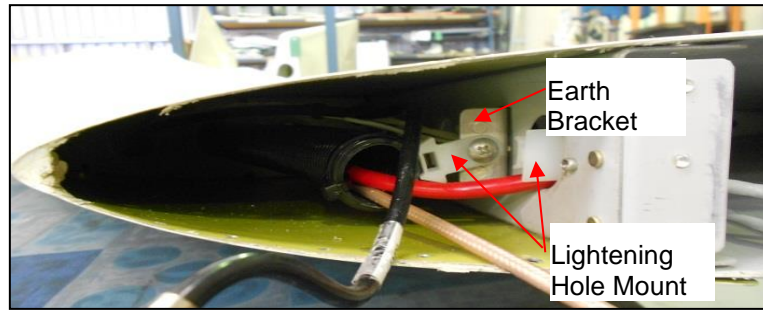

Figure 7 : Fin Tip
38. An additional Lightning Hole Mount is to be secured to the existing Earth Bracket (GA8-553021-107) as shown in Figure 7.
40. An additional Lightning Hole Mount (Item 27) is to be installed to the upper Fin Rear Spar Assembly (GA8-553011-017) lightning hole using a pop rivet (Item 38) (Ø4.1mm hole) as shown in Figure 7. Using a cable tie, secure wiring required to pass through this lightning hole to the Lightning Hole Mount. Ensure that the wiring does not chafe around the lightning hole.